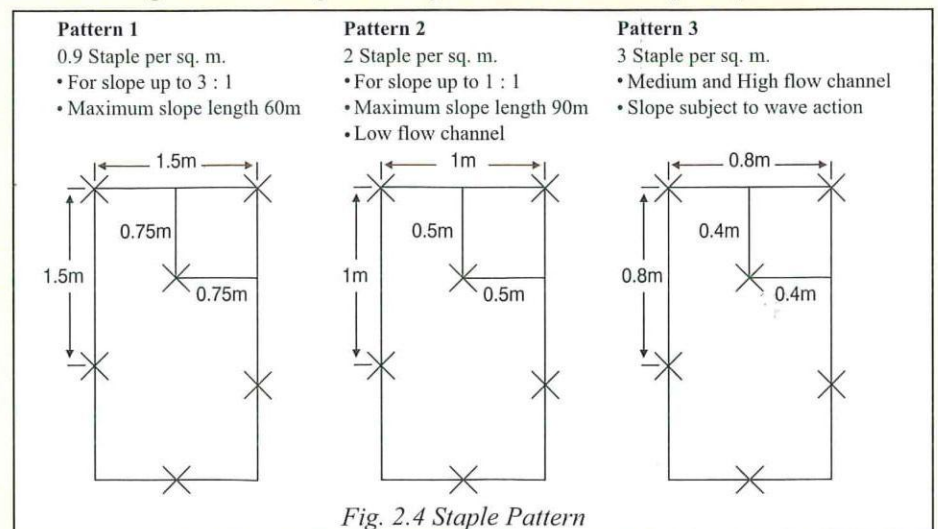

Fig. 2.4 Staple Pattern
5. Fixing using J-shape mild steel pins are recommended for anchoring mat to the ground surface. (Figure.2.4)